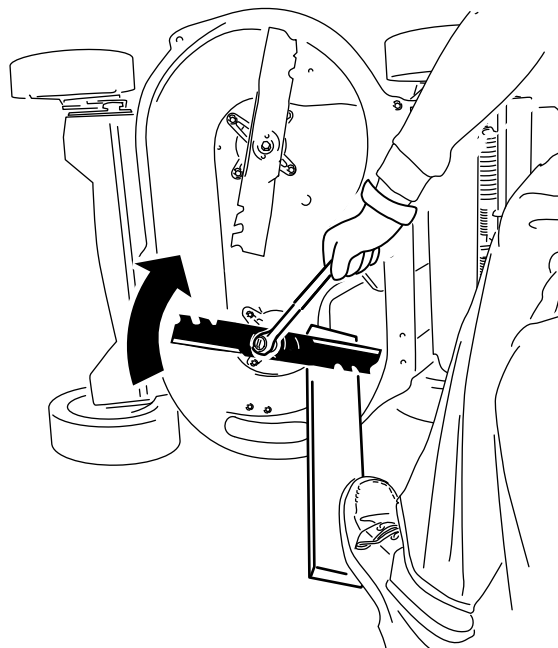

Figure 31
2. Steady each blade with a board and turn the blade bolt clockwise with a torque wrench as shown in Figure 31; torque the blade bolt to 82 N·m (60 ft-lb).